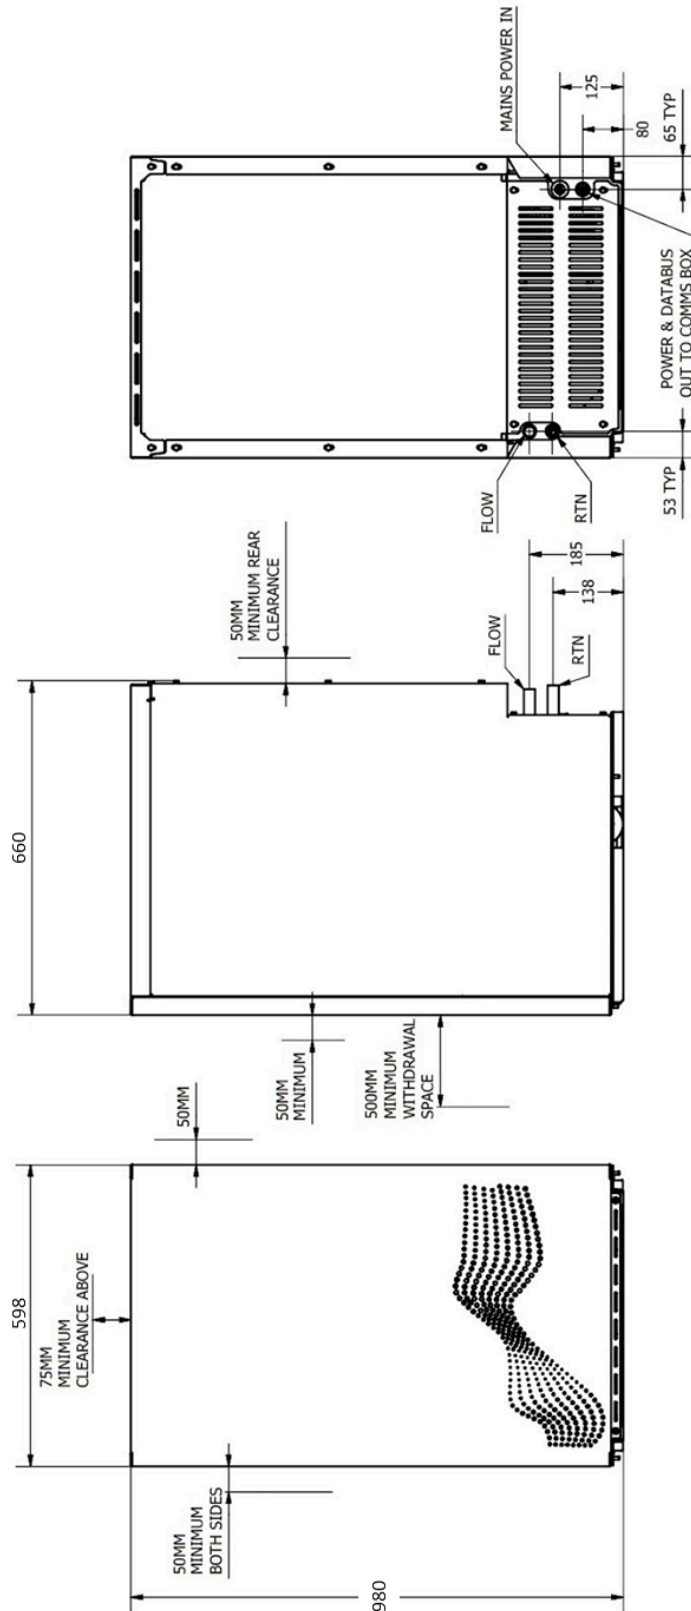

Figure 7: Standard clearance distances required around the ZEB®
- Standard clearances around the ZEB[®] are given in **Figure 7**